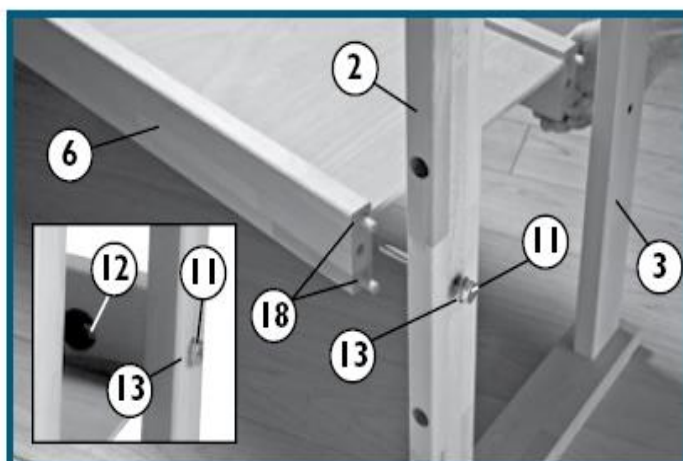

Fig. 3
3. Use two Dowels (18), an M-12 x 100 Hex Bolt (11), a Washer (13) and an M-12 Nut (12) to attach each Middle Stretcher (6) to the leg assembly (Fig. 3). The Middle Stretcher assembly can be mounted with the Center Shelf (7) on the top (as in Fig. 3) or bottom (as in Fig. 3 inset photo). Make sure the bench dog holes in the legs are all facing forward. Repeat this process for the other leg assembly.